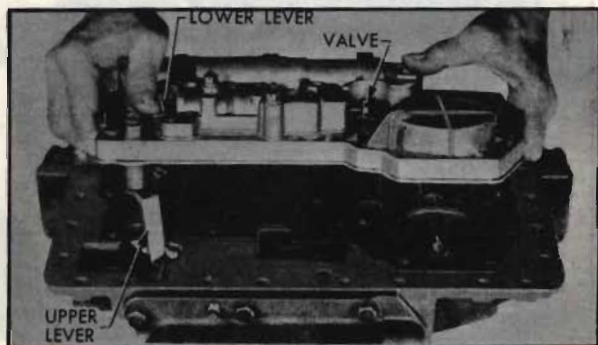

Fig. 45. Removing valve and servo body assembly
- Remove the valve and servo body assembly by prying lightly upward with a screw driver to free gasket, then push the control valve and operating lever inward. Grasp the assembly and remove from the transmission case (Fig. 45). Remove gasket and check imprint for evidence of oil leakage.